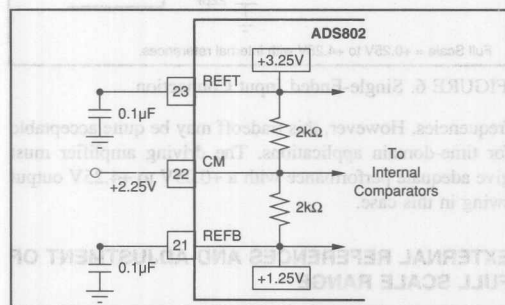

FIGURE 3. Internal Reference Structure.
The analog input of the ADS802 can be configured in various ways and driven with different circuits, depending on the nature of the signal and the level of performance desired. The ADS802 has an internal reference that sets the full scale input range of the A/D. The differential input range has each input centered around the common-mode of +2.25V, with each of the two inputs having a full scale range of +1.25V to +3.25V. Since each input is 2V peak-to-peak and 180° out of phase with the other, a 4V differential input signal to the quantizer results. As shown in Figure 3, the positive full scale reference (REFT) and the negative full scale (REFB) are brought out for external bypassing. In addition, the common-mode voltage (CM) may be used as a reference to provide the appropriate offset for the driving circuitry. However, care must be taken not to appreciably load this reference node. For more information regarding external references, single-ended input, and ADS802 drive circuits, refer to the applications section.